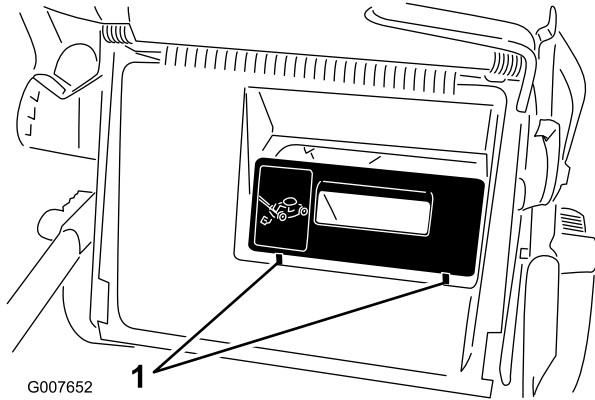
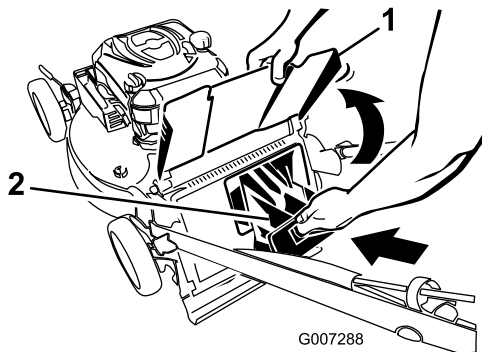

Figure 28
Figure 29
**Important:** Ensure that the rear discharge plug is securely in place. Lift up the discharge deflector and look for 2 tabs in front of the plug (Figure 28). If you do not see them, firmly push the plug in until it snaps into place (Figure 29).